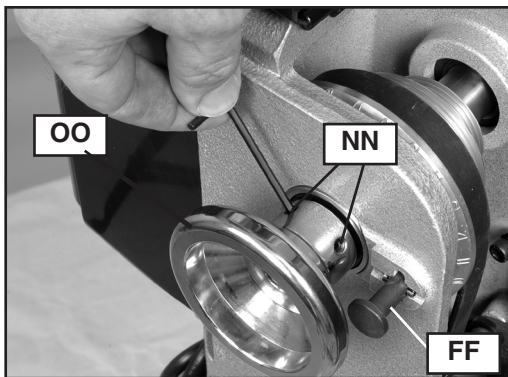

Fig. 31
4. Loosen two set screws (NN) Fig. 31 on the spindle handwheel (OO) Fig. 31 at least 2-3 turns to avoid damage to the threads during removal.
5. Engage indexing pin (FF) Fig. 31 and remove spindle handwheel (OO). (**NOTE:** Threads are left-hand. Turn handwheel clockwise to loosen and remove.)